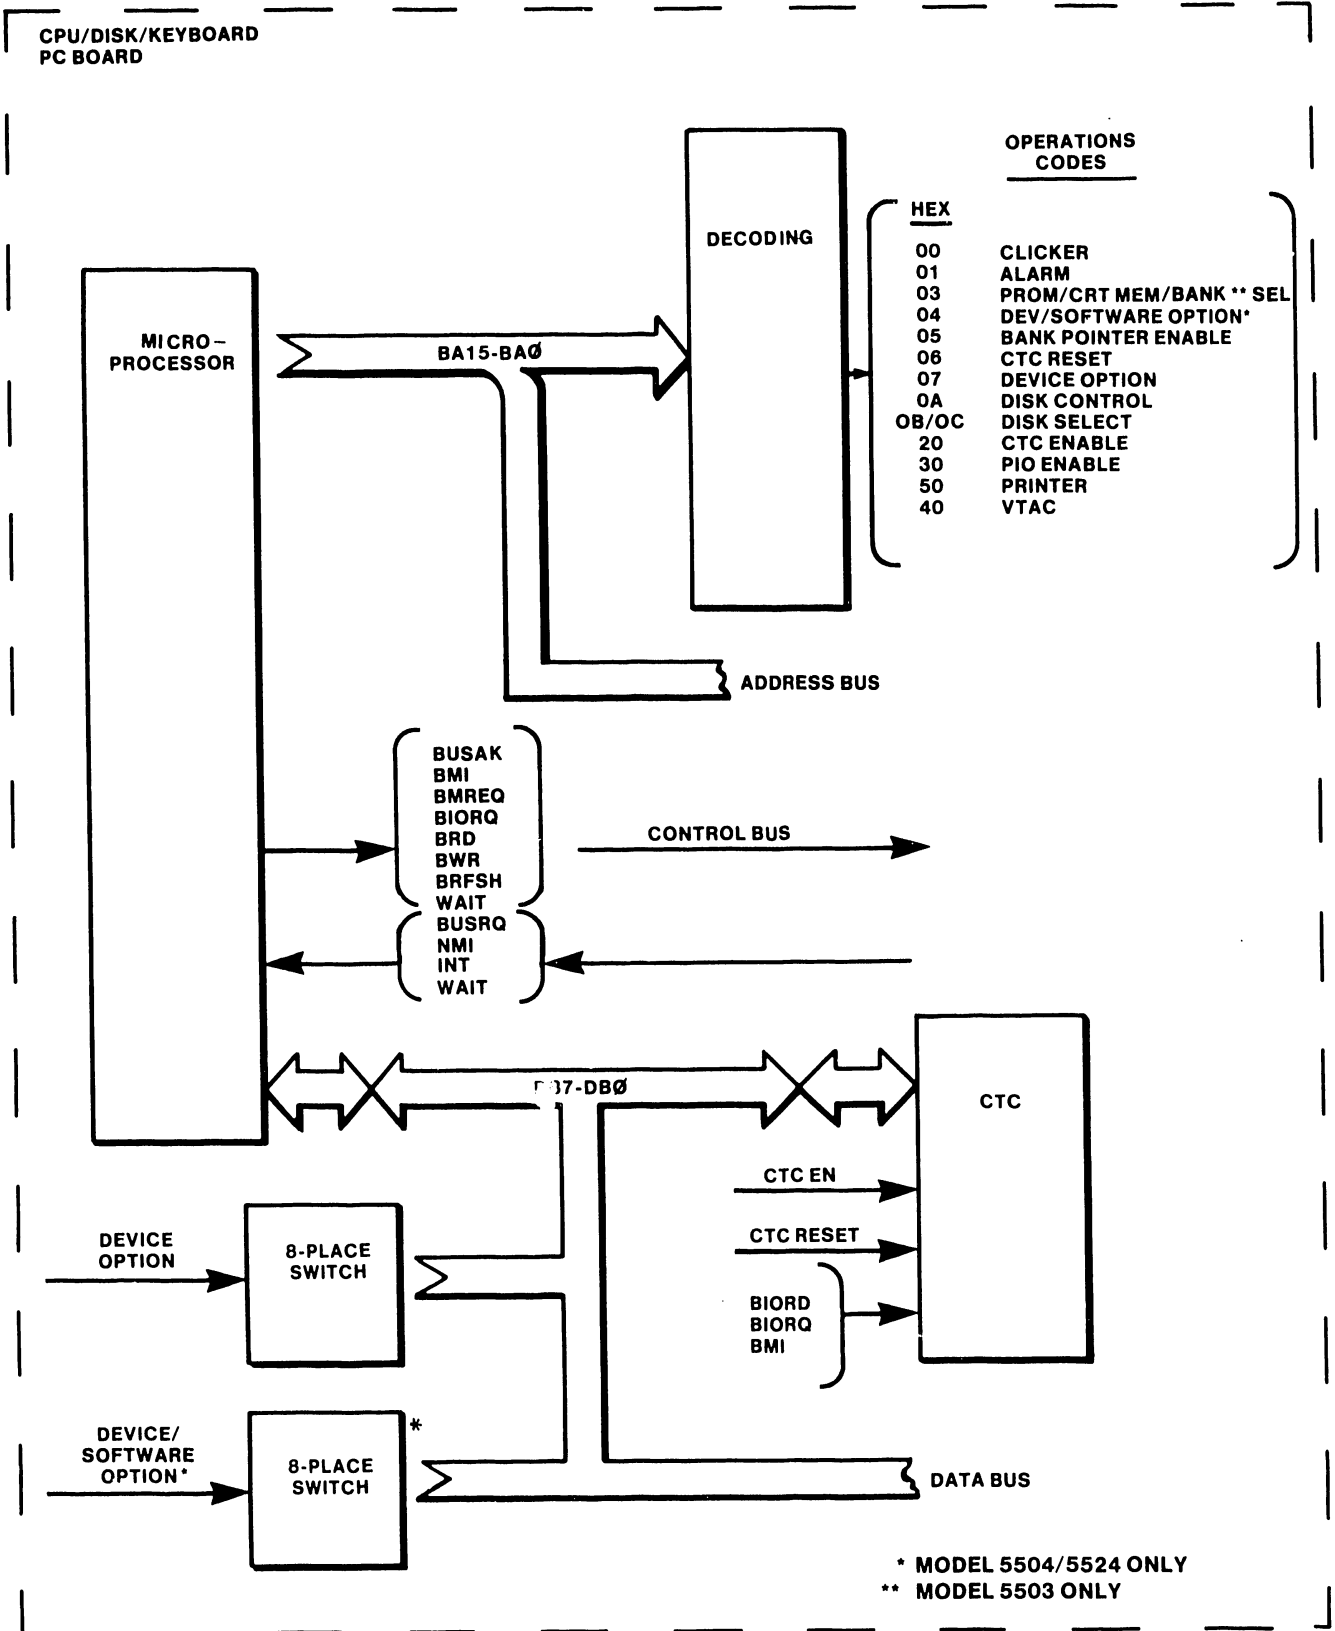

FIGURE 2-3 CPU FUNCTIONAL DIAGRAM
2.2 CPU OPERATION (Figure 2-3)